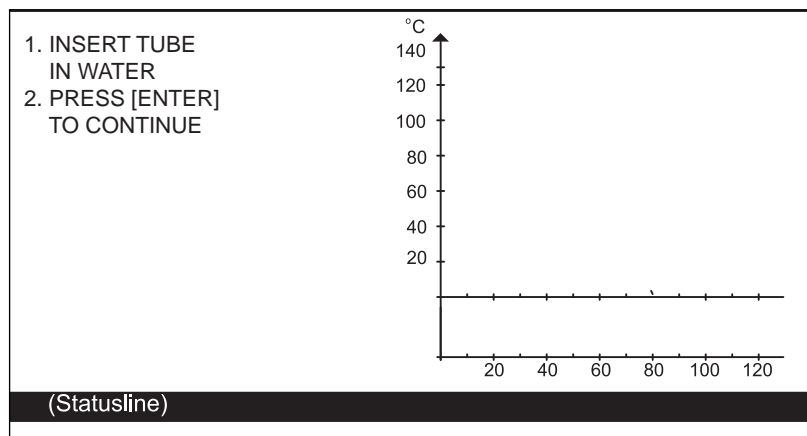

Fig. 2
- After pressing [Esc] key or go to Run Program Menu, the message as shown in Fig. 2 will appear.